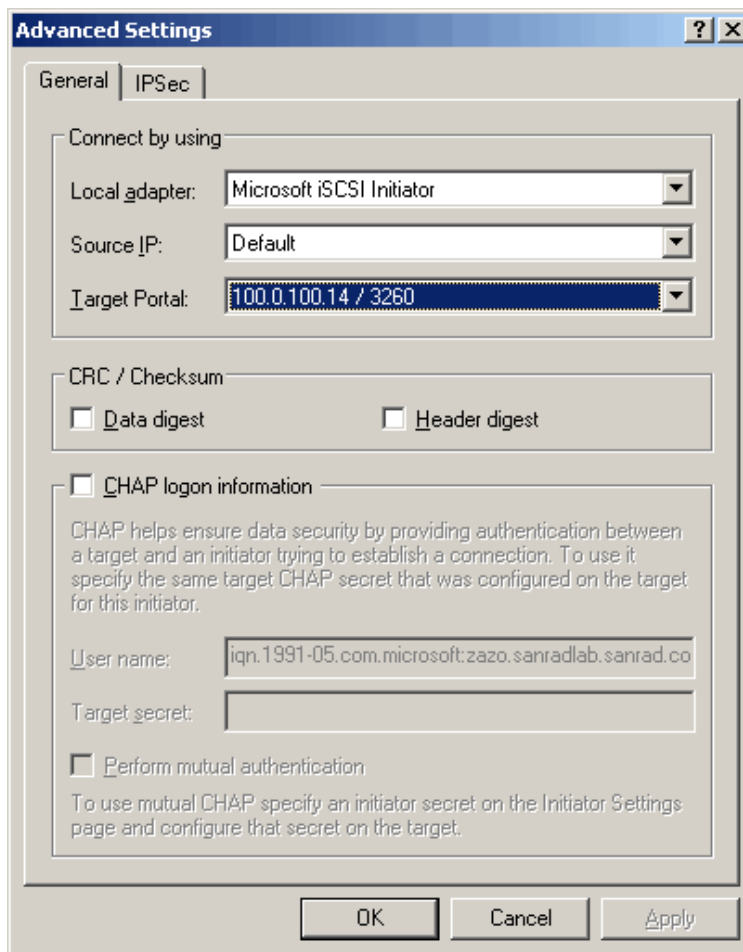

Figure 6. Configure Multi Sessions - Advance settings Window
In the Advanced setting window (Figure 6):
6. Click OK (Figure 6).